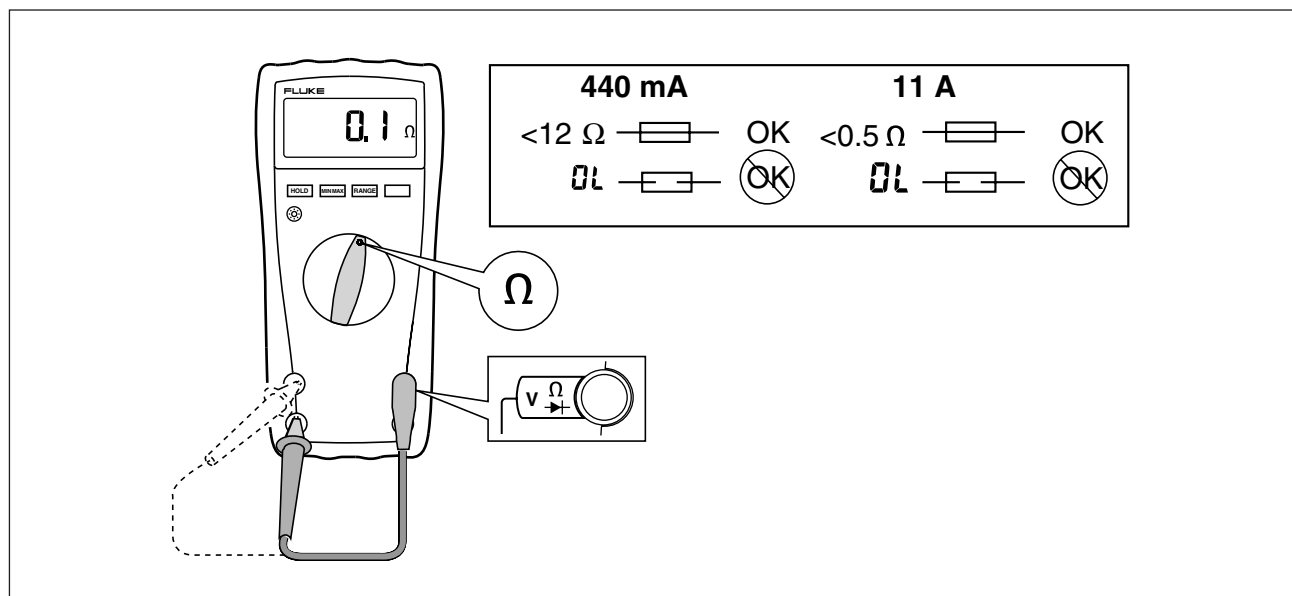

Figure 1. Testing the Current Fuses
To test the fuses (refer to Figure 1):
- If the display shows a resistance value in the range shown in Figure 1, the fuse is good.